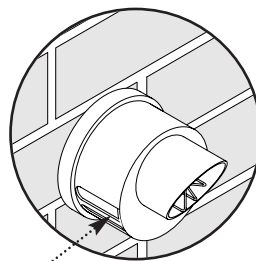

Fig. 45
12. Ensure that the terminal is positioned with the slots to the bottom (Fig. 45).